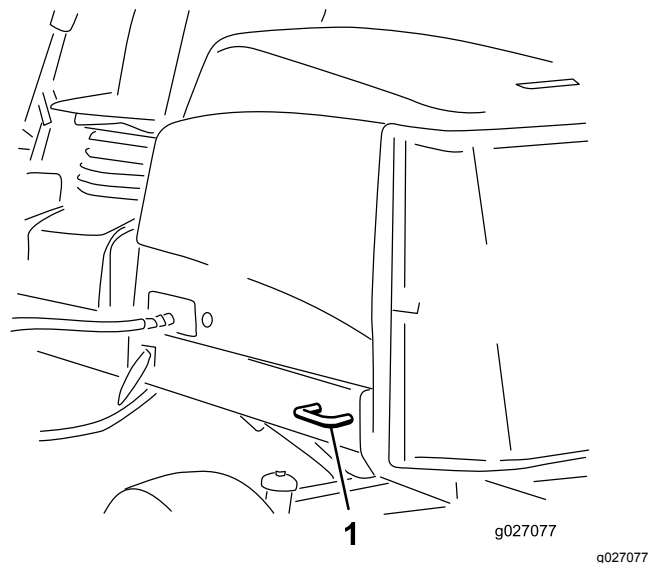

Figure 39
- Rear—each side of the machine on the rear frame (Figure 39)